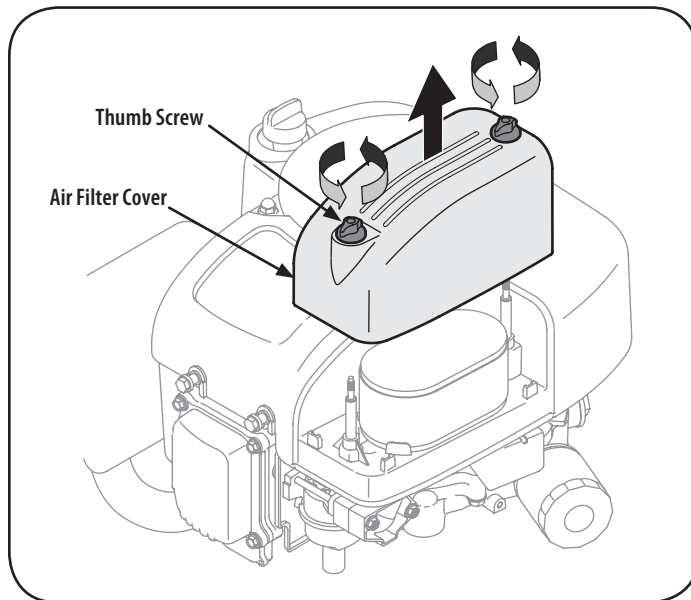

Figure 30
1. Unscrew the thumb screws and remove the air filter cover. See Figure 30.